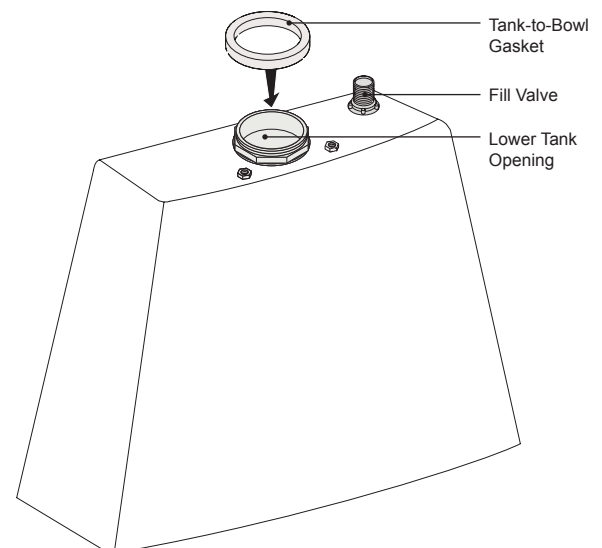

Figure 9
- 1 Turn the tank upside down and press the tank-to-bowl gasket into place over the lower tank opening (Figure 9).